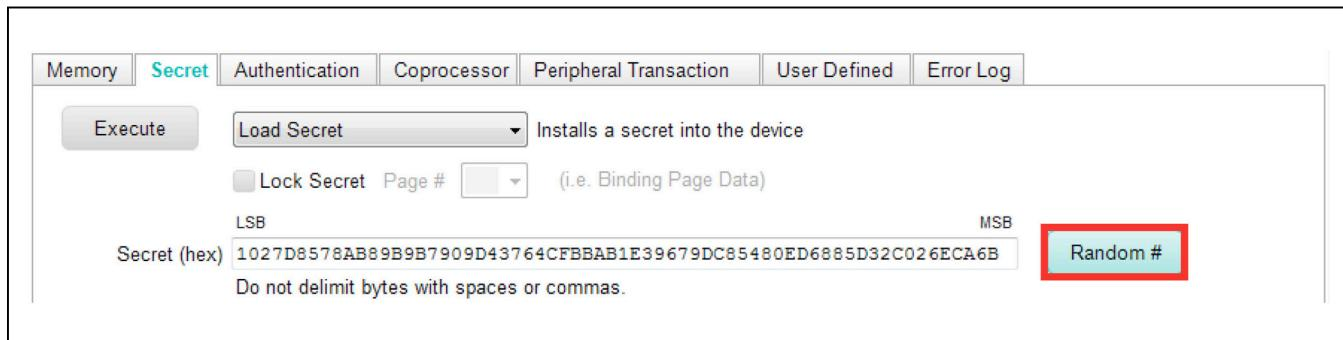

Figure 9. Random # Button
- 5) Generate the **Secret** random number by clicking on the **Random #** button (Figure 9).